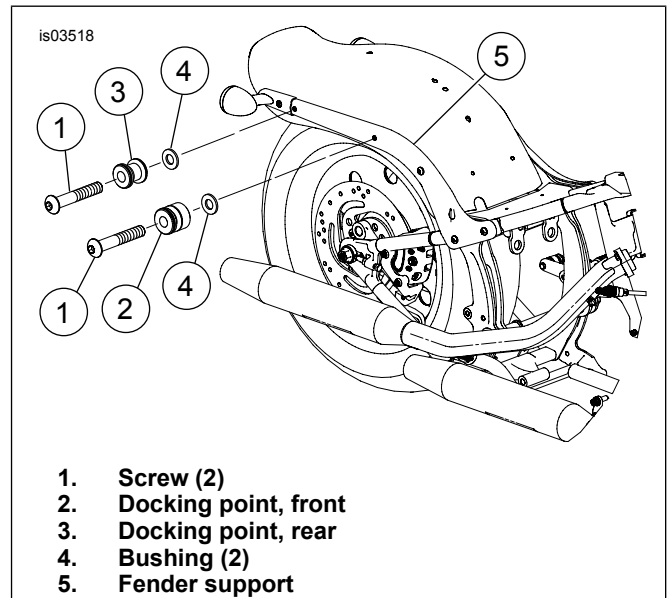

Figure 1. Existing Hardware (With Docking Points)
2. *Docking points already installed:* See Figure 1. Remove screws (1), front docking point (2), rear docking point (3), and bushings (4) from fender support (5). Discard screws but save docking points and bushings for kit installation. *Docking points not previously installed:*